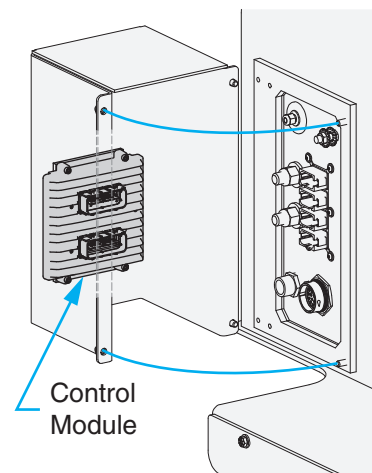

Figure 5-1-4 Control Module
- Disconnect control module, located outside the cab. Remove the guard plate at the front left of the cab for access. (see Figure 5-1-4).